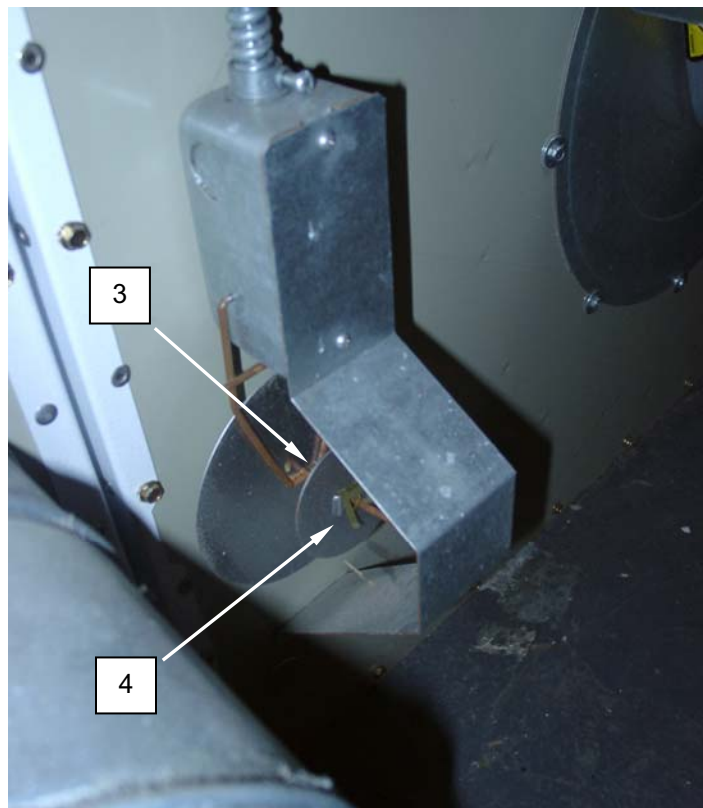

Figure 2. Adjust the Dryer Airflow Switch.
2. Start dryer, and note position of counterweight (**Figure 2, Item 3**).
3. Release counterweight clip (**Figure 2, Item 4**), and adjust counterweight to a point where the switch will be activated.